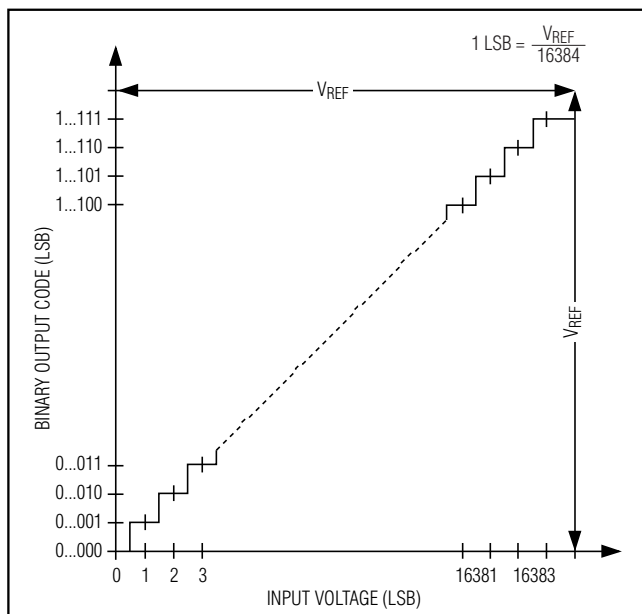
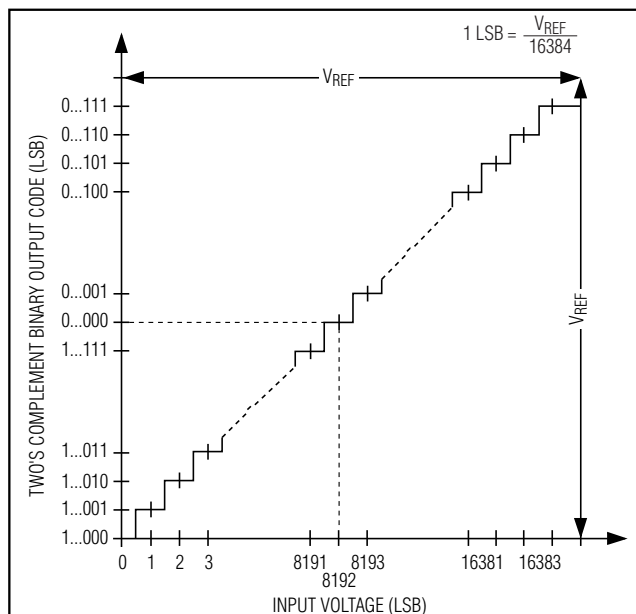

Figure 14. Unipolar Transfer Function
Figure 15. Bipolar Transfer Function
In unipolar input mode, the digital output is straight binary (Figure 14). For bipolar input mode, the digital output is two's complement binary (Figure 15). Data is clocked out on the falling edge of SCLK in MSB-first format.
Output data coding for the MAX1146–MAX1149 is binary in unipolar mode and two's complement binary in bipolar mode with  $1\text{ LSB} = (V_{\text{REF}}/2^N)$ , where  $N$  is the number of bits (14). Code transitions occur halfway between successive-integer LSB values. Figure 14 and Figure 15 show the input/output (I/O) transfer functions for unipolar and bipolar operations, respectively.